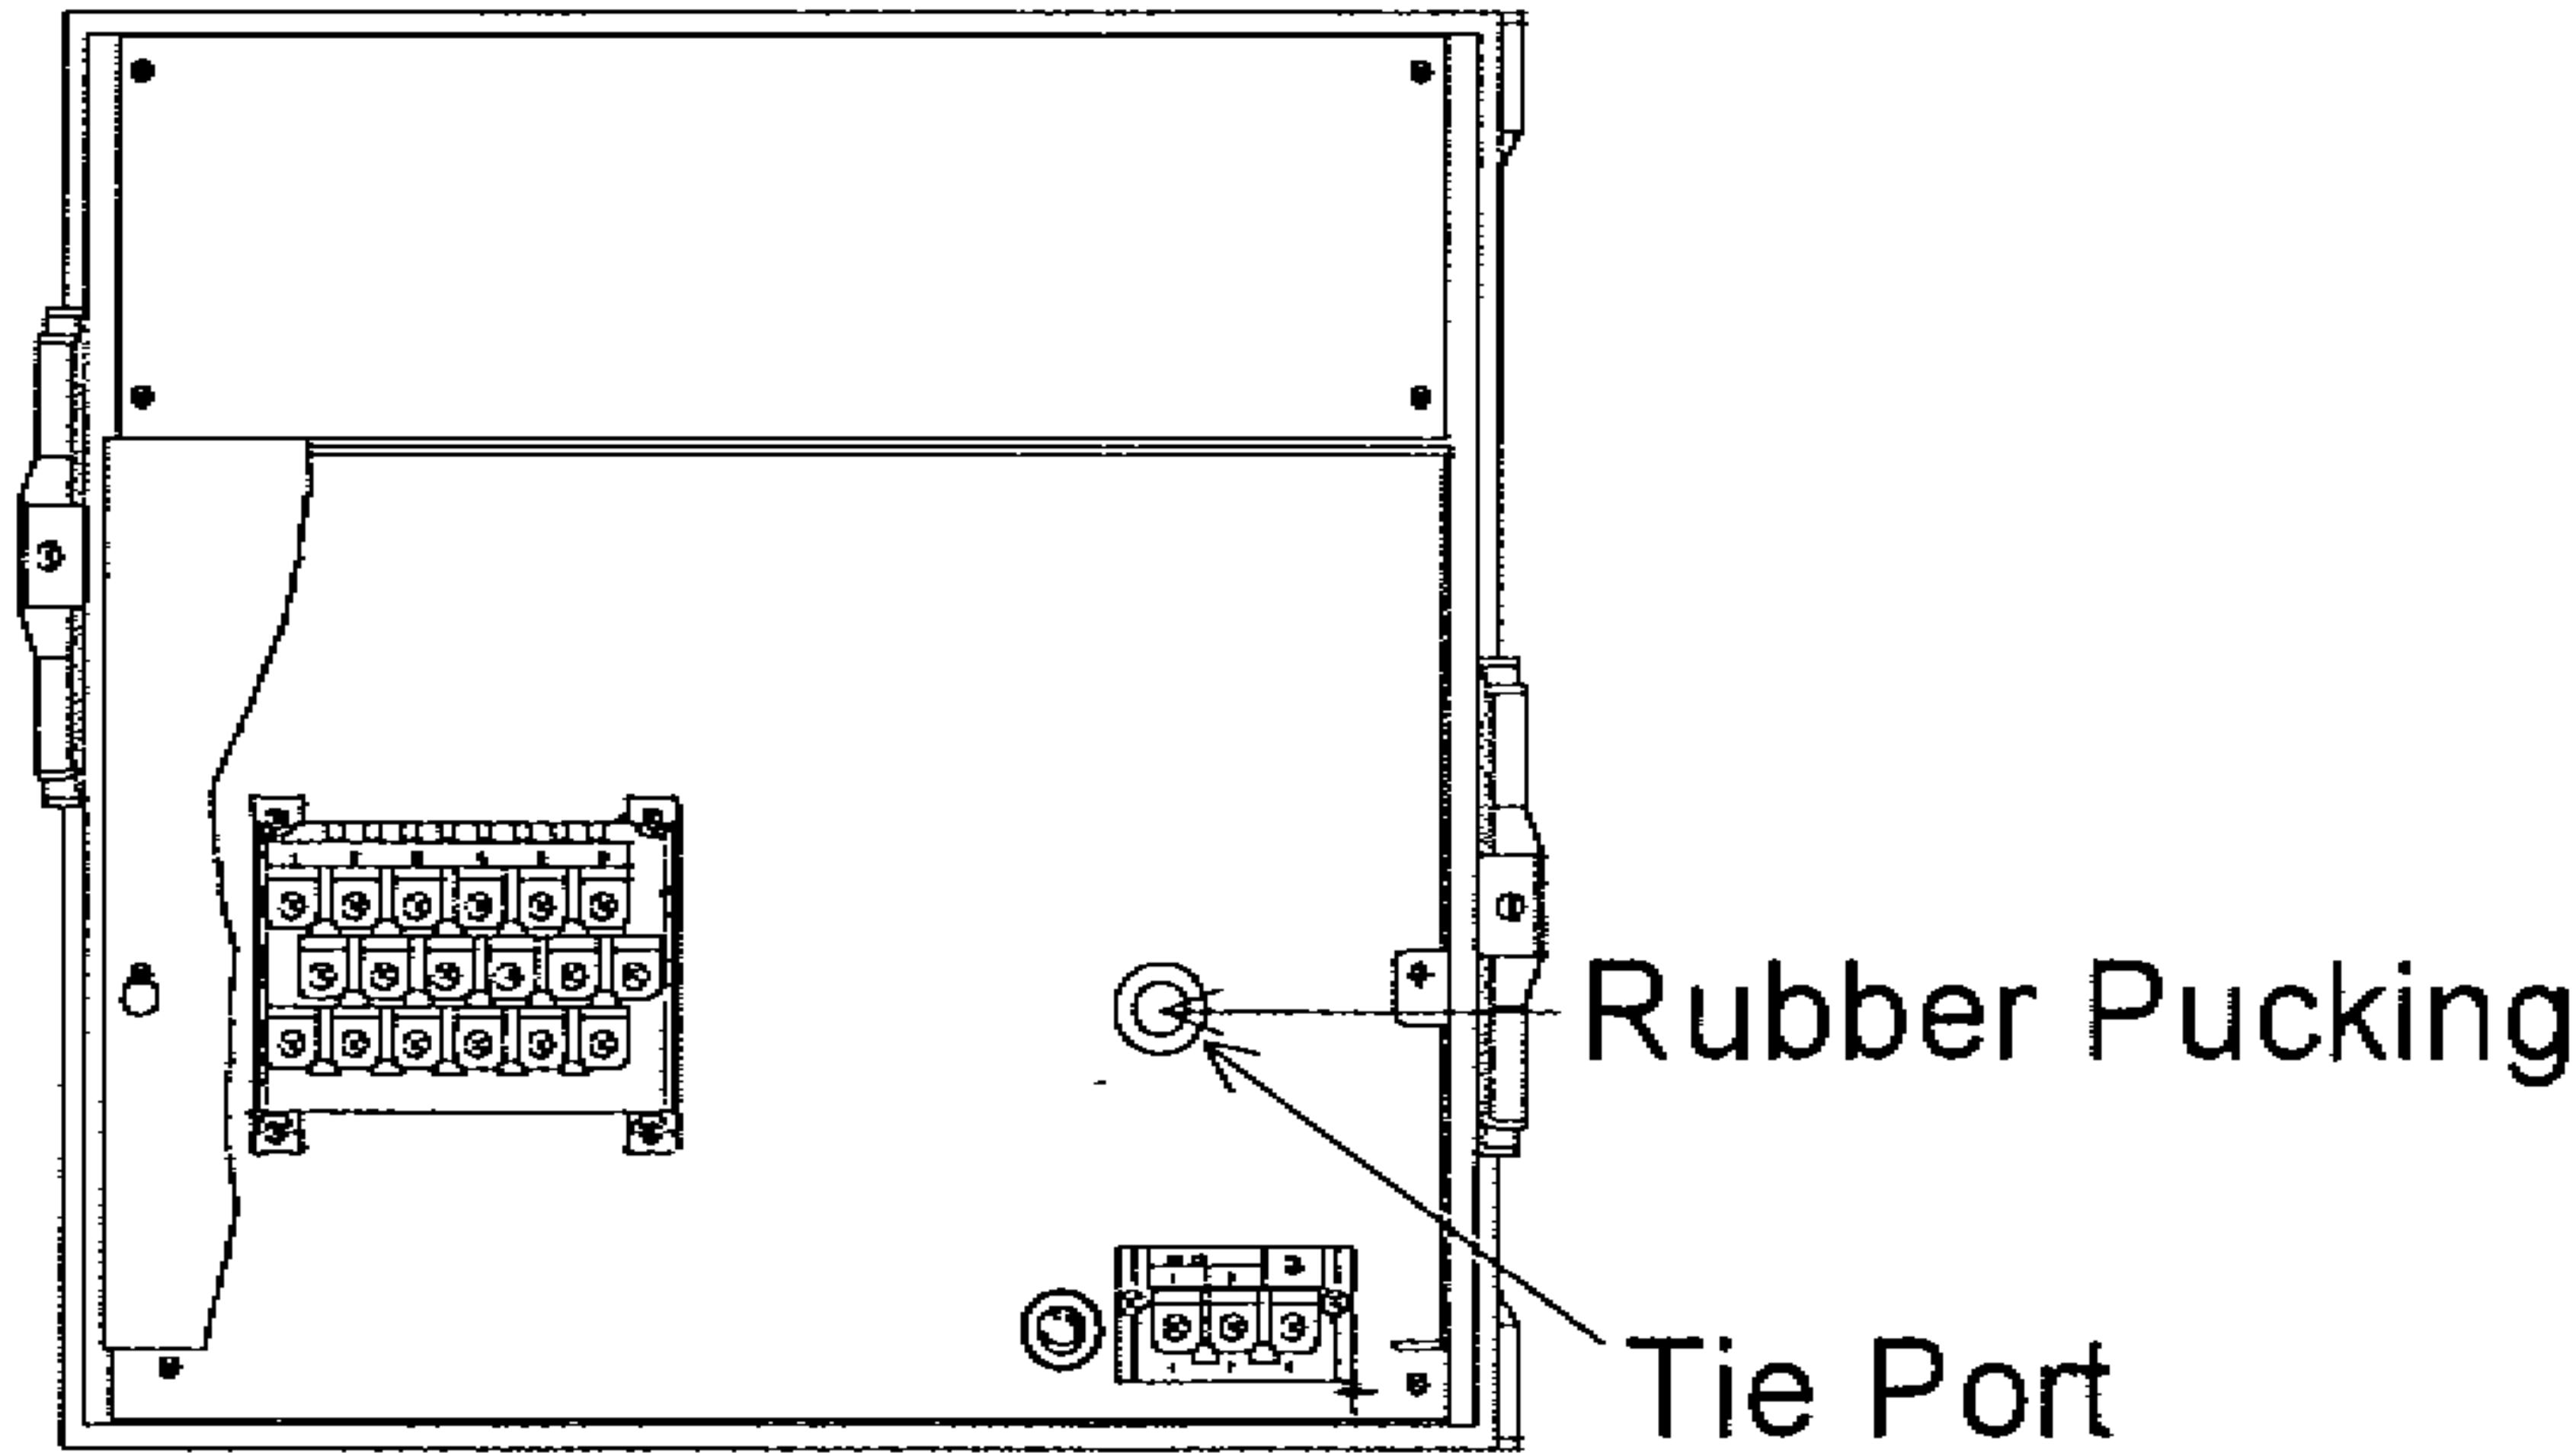

Fig. 10.14 Tie Port Position
- ① Turn off the power switch.
- ② Take out the main unit. (See Page 60)
- ③ Remove the rubber packing shown in Fig. 10.14.